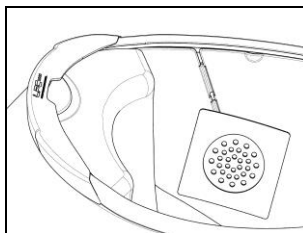

Fig. 33
- Position the right-hand side speaker in the specific cheek pad housing and secure it using the specific adhesive (Fig. 33).